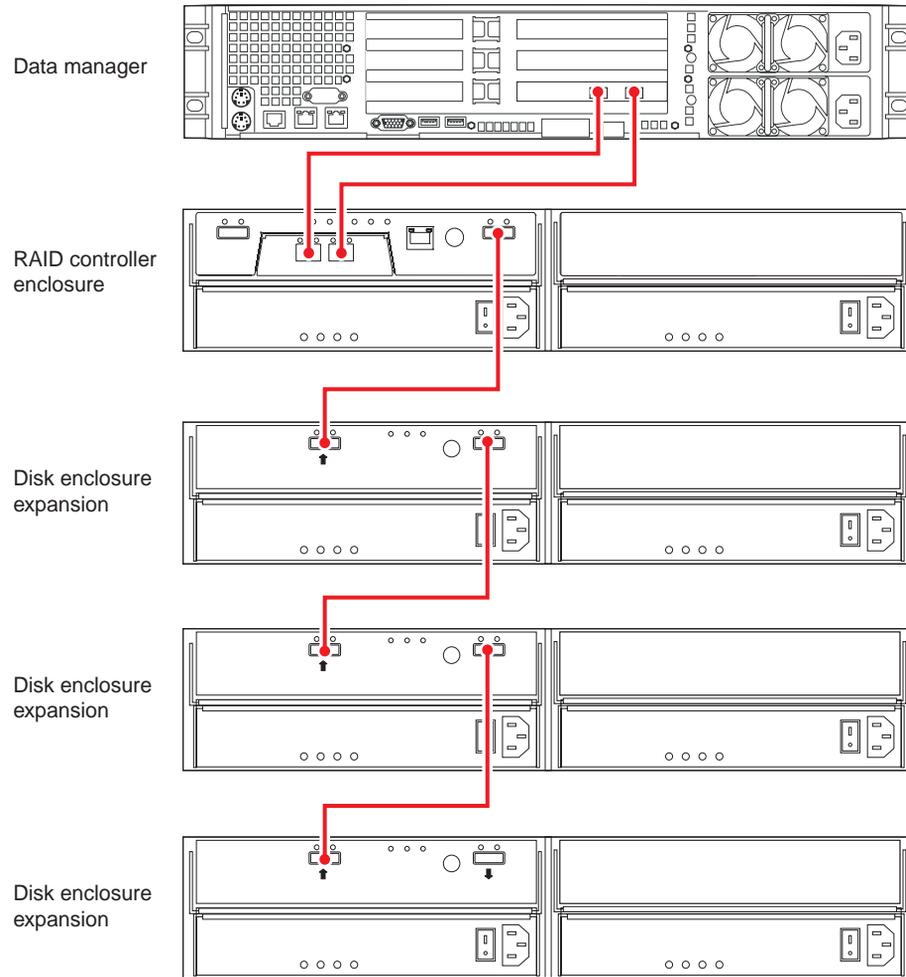

Figure 1-15 Data Manager, Single-Controller RAID Enclosure and Three Disk Expansion Units
Use the following steps and Figure 1-15 to cable a data manager to a single-controller SATA RAID enclosure and three disk expansion enclosures.
1. Connect the Data Manager's Fibre Channel PCI card port A to the RAID controller's host 1 port in the controller enclosure, see Figure 1-15.